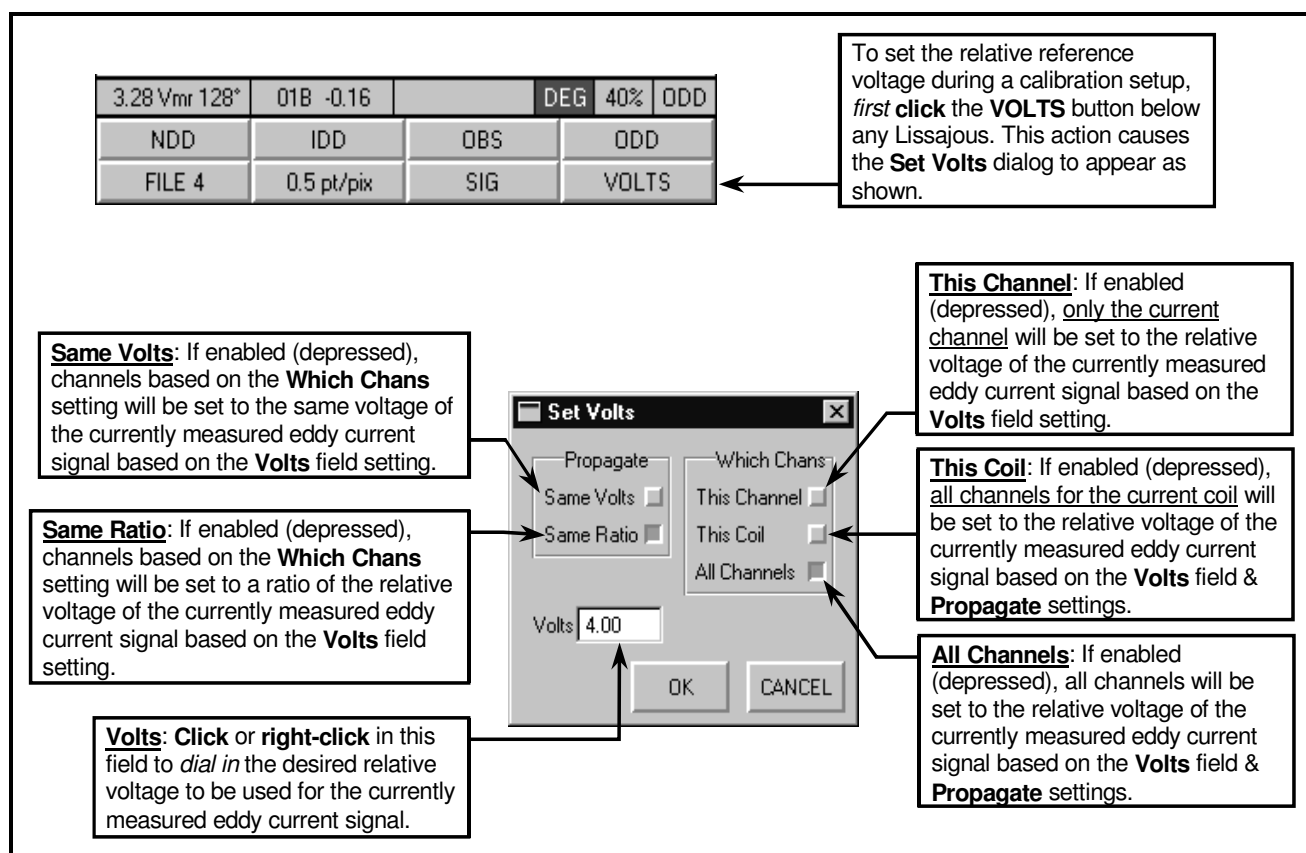

Figure 4-11. Setting Volts
To set the relative voltage level for a given an eddy current signal (*see Figure 4-11*):
- On the **Set Volts** dialog, select the **Propagate** method, the channel(s) or coil which this voltage will be applied to in the **Which Chans** area, **click** or **right-click** the **Volts** field to *dial in* the desired reference voltage to be used for the currently measured eddy current signal, then **click OK**. Review Figure 4-11 for additional details;